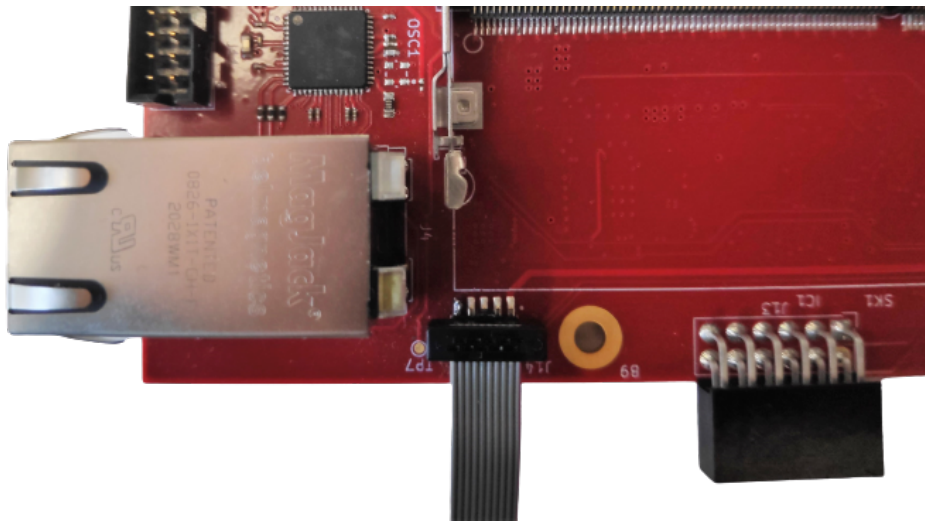

Figure 3: J14 connector.
1. Connect JTAG module to **J14** like it is shown on Figure 3.